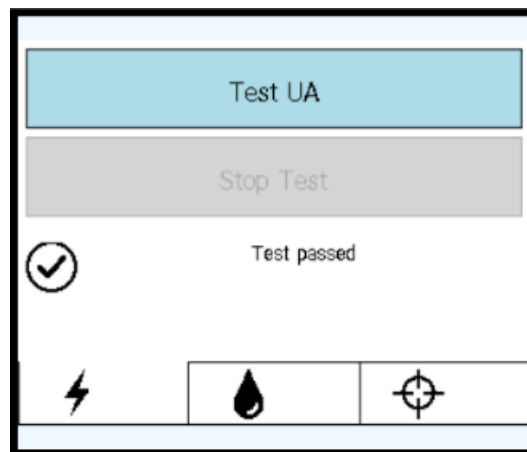
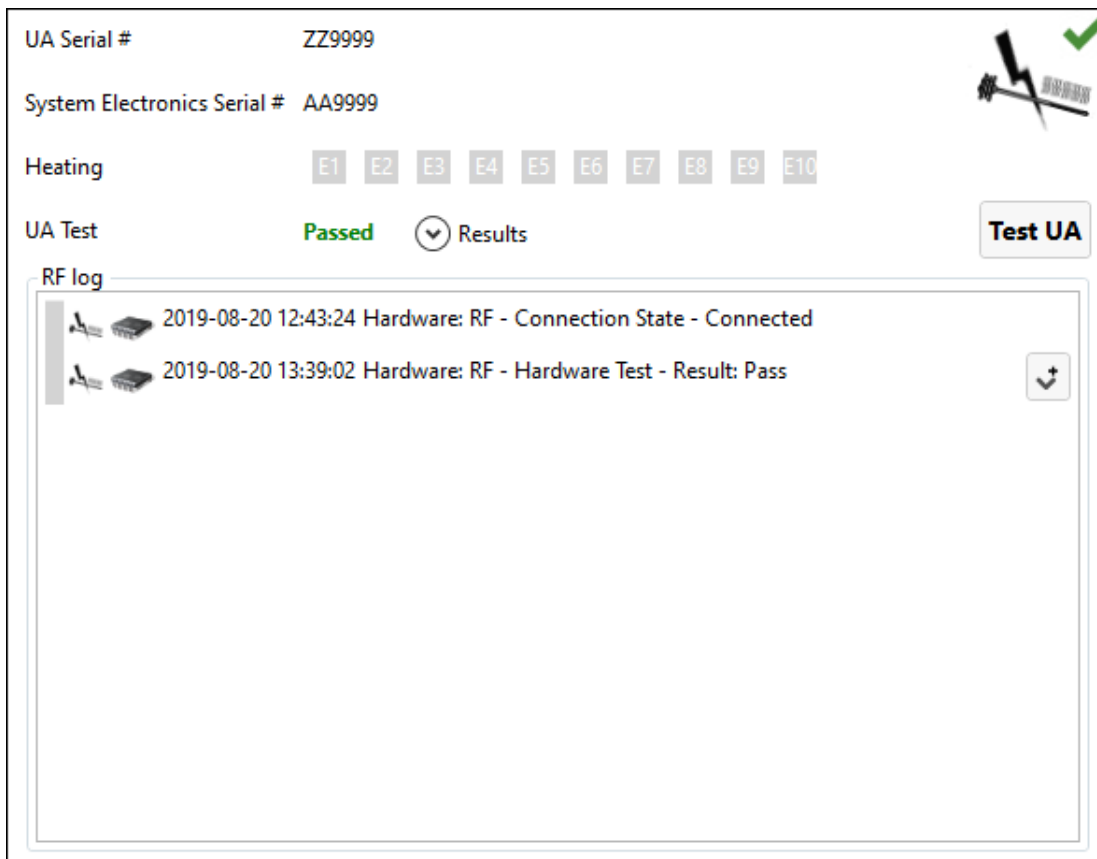

Figure 14: RF tab on PSIB display after successful RF connectivity test.
Figure 15: RF information box in Setup workspace after successful RF connectivity test.
- c. In the **RF** tab of the PSIB display (Figure 14), click **Test UA**. The system will send a short burst of power to each of the ten UA elements to ensure continuity and functionality of all ten channels. This can also be done from the TDC *Setup* workspace from the RF information box (Figure 15).
- d. When the RF connectivity test is complete, the PSIB will display a short message (Figure 14). You can see detailed RF connectivity test results in the RF information box of the TDC software (Figure 15).